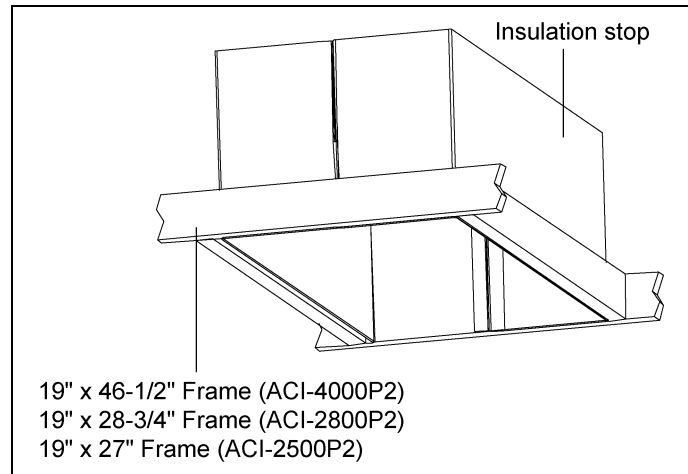
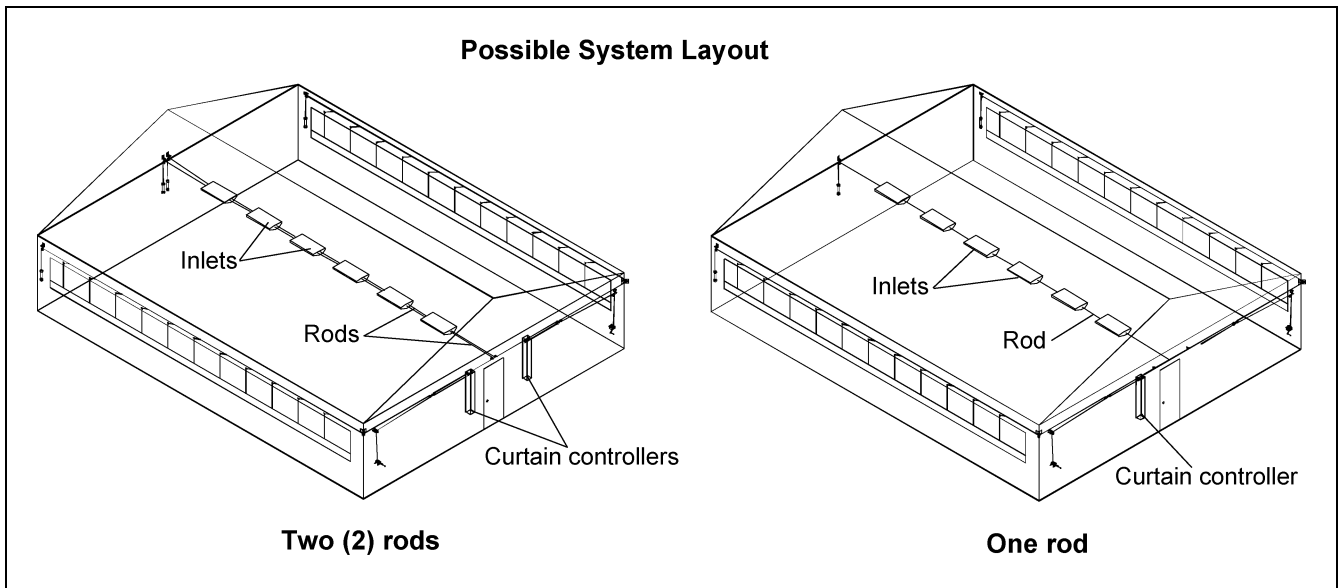

Figure 1
Figure 6
1. For inlet ACI-4000P2, frame in 19" x 46-1/2" opening, for ACI-2800P2, frame in 19" x 28-3/4" and for ACI-2500P2, frame in 19" x 27" opening. (See Figure 1.) See Figure 6 on Page 3 for one possible layout to integrate an inlet within a system.
2. Staple the insulation stop to the frame's opening, making sure it is flush with the bottom side of trussing. The ends of the insulation stop on double units should overlap with lock tabs as shown in Figure 1 and Figure 2.